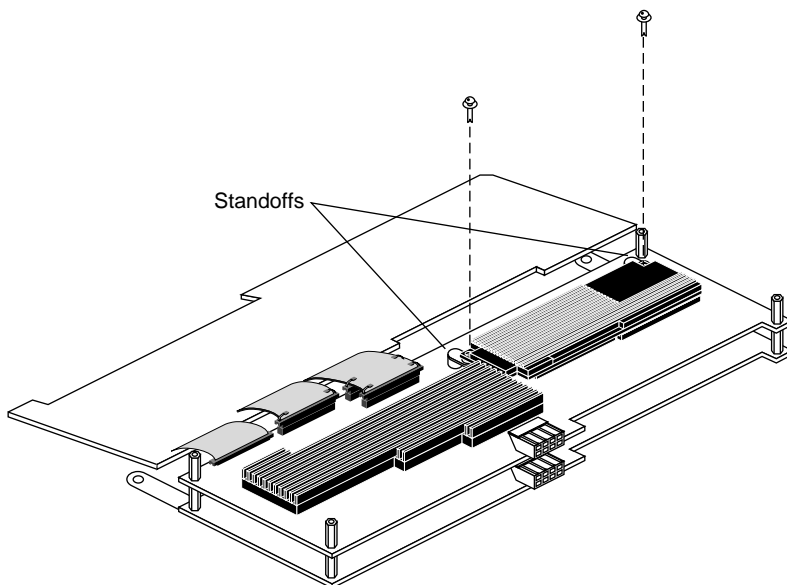

Figure 5-40 Seating Push Pins
12. Use the push pins to attach the texture memory board to the standoffs on the middle graphics board. See Figure 5-40.
Note: If the push pins do not snap into standoffs beneath the edge of the texture memory board, check to make sure you have not placed the board in backwards. See Figure 5-40.